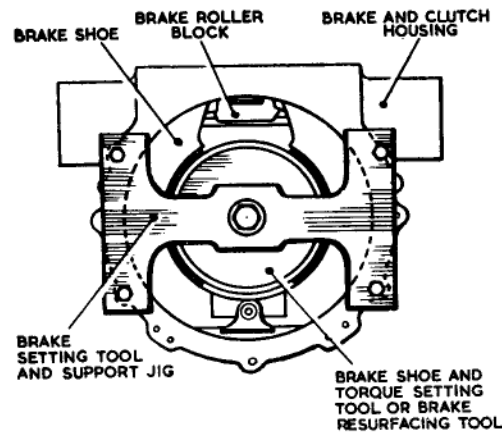
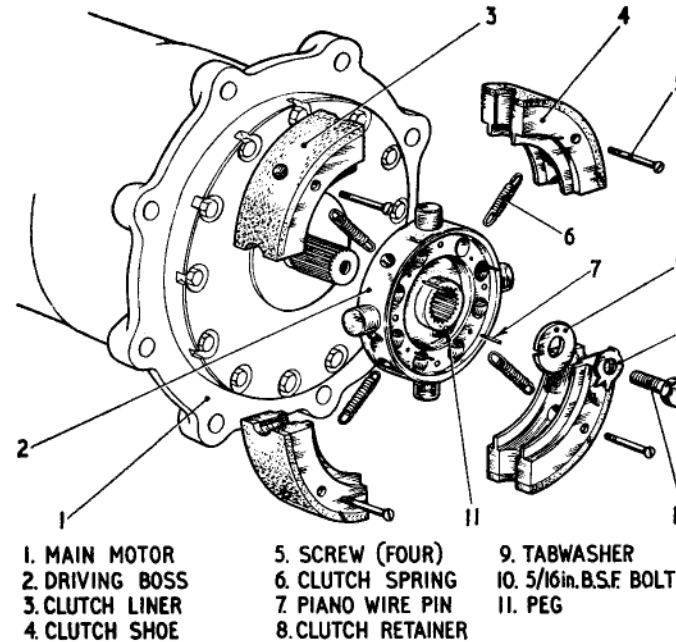

Fig. 11. Brake setting/resurfacing tool and support jig
Fig. 13. Centrifugal clutch
- (7) Insert the brake setting tool (Table 4, item 12 and fig. 11) between the brake shoes, supporting the shaft end in the clutch shaft ball bearing (7) and the opposite end in the support jig (Table 4, item 10).
- (8) Rotate the adjuster nut (21) until each spring is compressed by approximately 0.25 in., then using a feeler gauge, test to see that the shoes are concentric with the tool. If not, remove strips from the laminated shim (40) until concentricity is obtained.
- (9) Release the spring tension, remove the setting tool, replace it by the brake resurfacing tool (Table 4, item 14 and fig. 11) and compress the springs until 1.12 in. of the threaded end of the
(11) Assemble the main clutch (para. 92) in position, supporting the serrated end in the brake tool support jig (fig. 11) which must remain in position until the main drive unit is assembled to the gearbox.
(12) Engage the centrifugal clutch drum shaft (4) with the main clutch driving spindle (24), packing the central space between shaft and spindle with grease (Table 5) and secure by the central bolt (3) and spring washer.
(13) Mount the centrifugal clutch assembly (fig. 13) on the main motor shaft, securing it by the clutch retainer, bolt and tabwasher.
(14) Insert the bolt bushes (57) into the fixing holes and bolt the motor to the brake housing (53), using bolts (55), washers, nuts and locknuts.
(15) Compress the brake springs until the adjuster rod protrudes 1.12 in. beyond the adjuster nut to give a nominal 600 lb. in. static torque. Lock firmly in this position and fit the cover plates (18, 63) with their gaskets (17, 62).
91. To assemble the centrifugal clutch refer to fig. 13, which is self-explanatory.